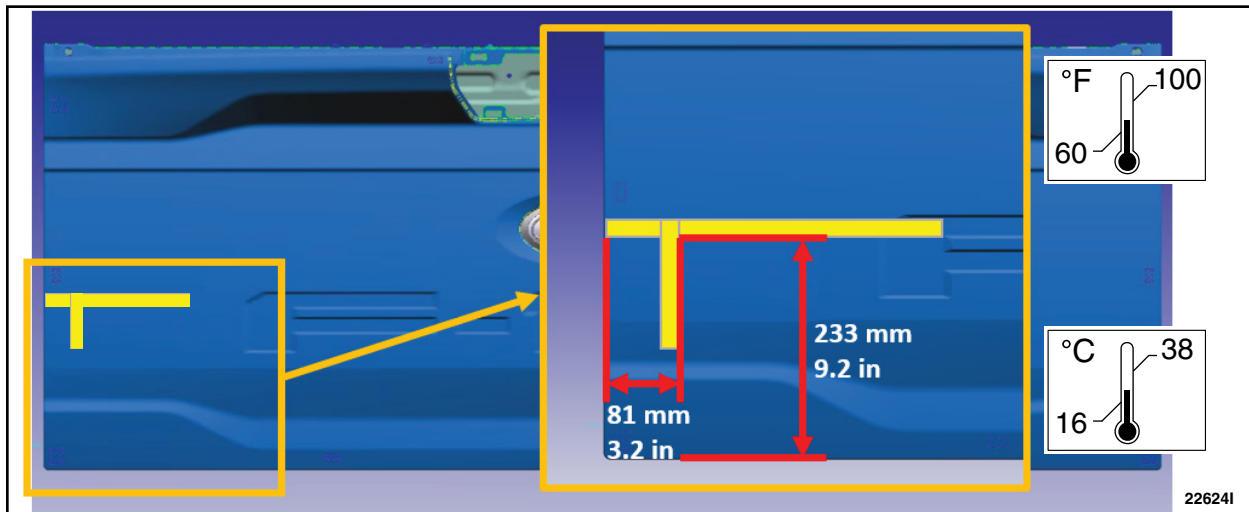

**FIGURE 11**
42. Remove the tape liner from the back of the badge and install to the door using the locating tape to properly align the badge. See Figure 11.
43. Using medium hand pressure, press for 3 seconds at a minimum of 2 separate locations along the length of the badge until the tape is fully adhered. See Figure 11.